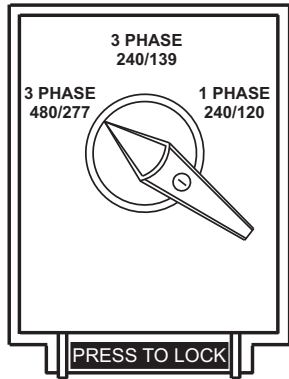

Figure 23. Voltage Selector Switch
1. Place the voltage selector switch in the 3Ø 480/277 position as shown in Figure 23.